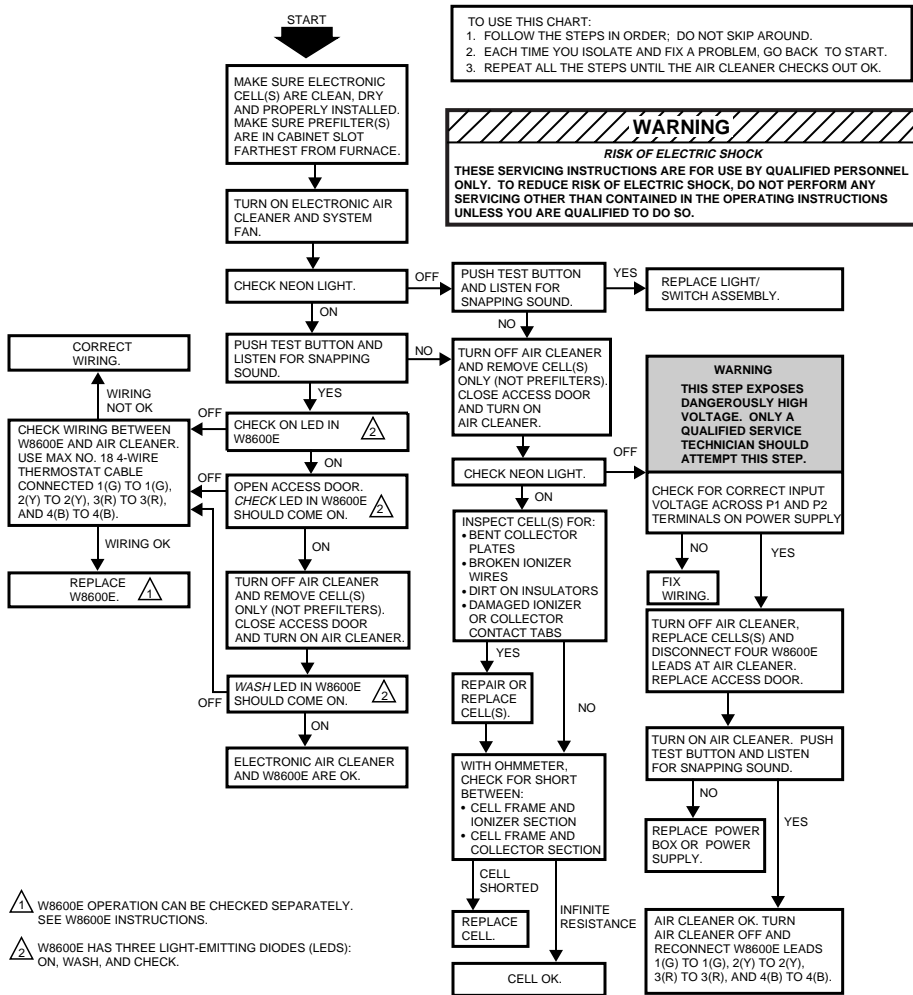
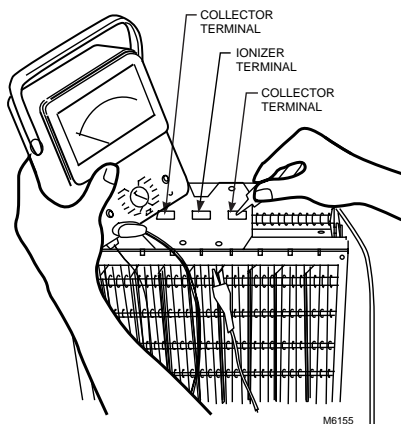

Fig. 12. Troubleshooting air cleaners with solid-state performance indicator.
Fig. 14. Use ohmmeter to check electronic cells for short circuits.
- Test meter with 15 kVdc probe or equivalent. The electronic air cleaner troubleshooting charts, Figs. 12 and 13, show how to quickly isolate a problem in the air cleaner. Although a meter is needed for some steps, see Fig. 14, the primary diagnostic tools are the *neon light* and the *test button*.